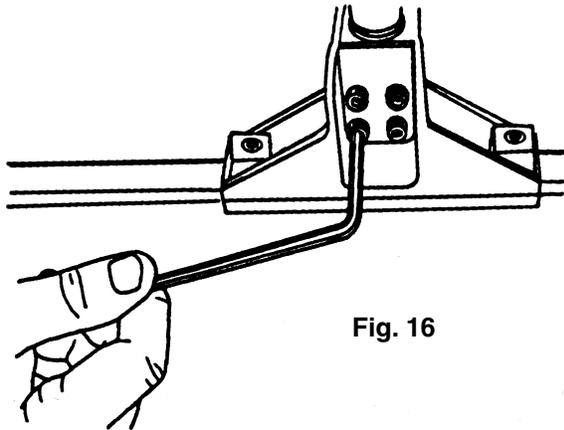

Fig. 16
- c. Once aligned, tighten the socket screws (16) with a 5/32" Allen wrench, as shown in Fig. 16. Repeat Step 12 to double check alignment.